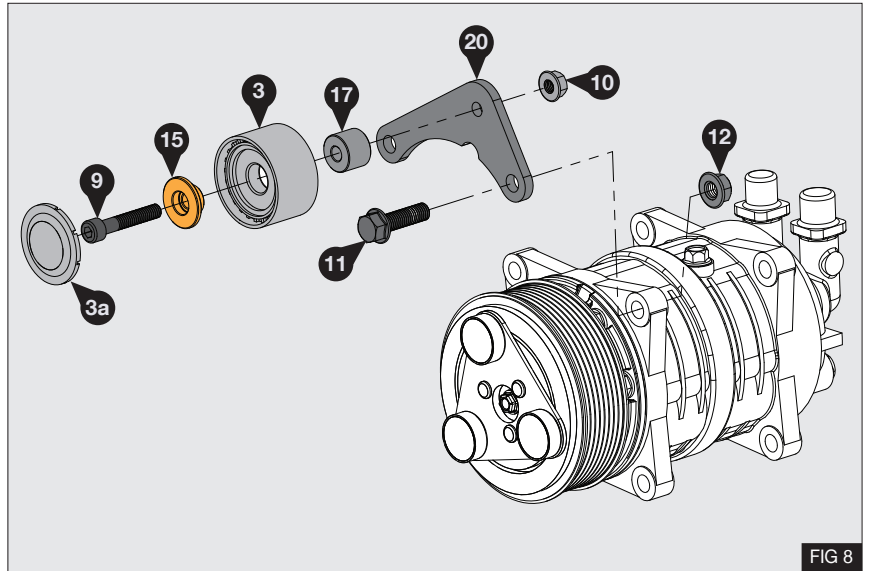

FIG 8
9. Fit the pulley (3) to the plate (20) using spacer (17) and M8x45 bolt (9) with reducing spacer (15) and M8 nut (10) - Fig 8
- Torque bolt (9) to 18 lb-ft / 25 Nm
11. Loosely install the assembled plate to the additional compressor with M10 x 35 bolt (11) and nut (12)